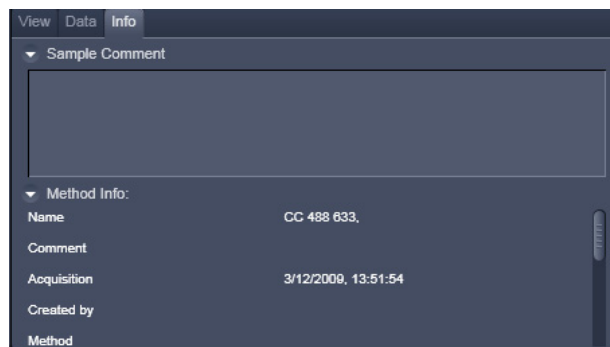

Fig. 102 Info options
- Click on the **Info** tab to open the **Info Options** menu (Fig. 102).